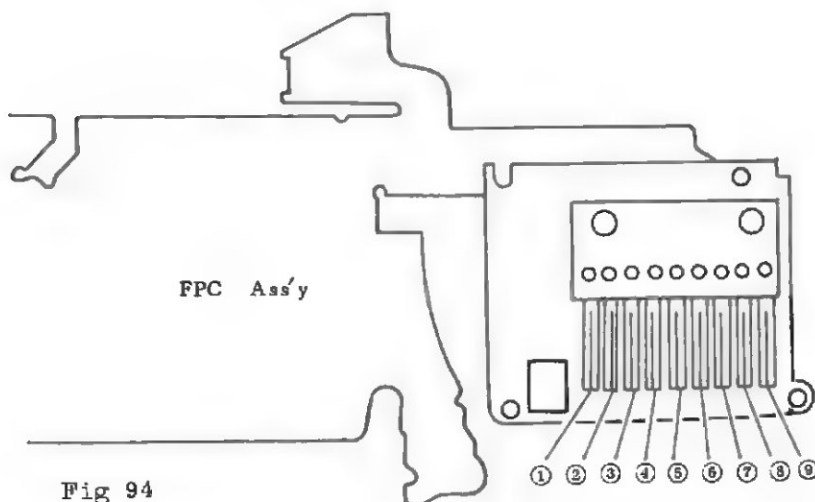

Fig 94
- (1) Malcontact of SPD contact No.1 and No.2 as shown in Fig 94.
- (2) Bad soldering of white and Black lead wire of SPD.
- (3) Short circuit between Trigger contact No 4 and GND contact No 3 as shown in Fig 94.
- (4) Bad soldering of ① Transistor on the FPC Ass'y.
- (5) Bad soldering of ⑨ Capacitor on the FPC Ass'y.
- (6) Foreign object lodged in Opening Magnet (Parmanent magnet).
- (7) Short circuit between soldering point of ASA Base and FPC.
- (8) Contact surface of Closing Magnet is dirty or defective of Closing Magnet mechanism.
- (1) Malcontact of ASA Click Plate contact.
- (2) Broken of Shutter FPC.
- (3) Malcontact of SPD contact No 1 and No 2 as shown in Fig 94.
- (4) Soldering short circuit of LED Array.